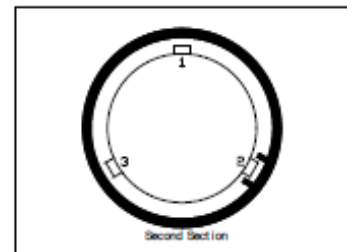

figure 2
- c. Place the second section on the core with the drive pins on either side of square stock 2. Be sure the drive pins angle down (figure 2).